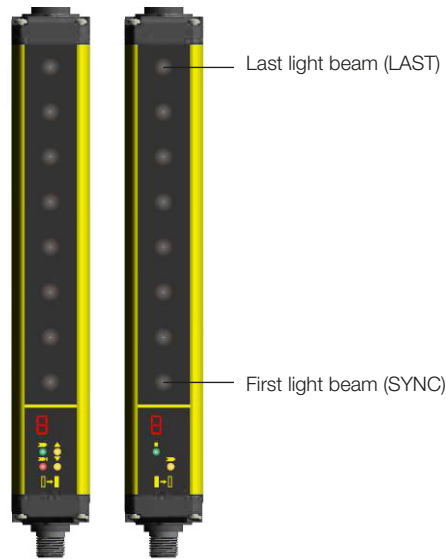

Figure 29: Emitter and receiver alignment (Fig. shows BLG 4A-...-014/030-...)
- The output signal switching devices OSSD1 and OSSD2 may not be connected in series or parallel. They may however be used singly while adhering to the safety requirements of the system (see Figure 29 on page 35).
The following descriptions refer to the standard installation position according to the information in Figure 29 on page 35 and installation with downward facing connectors.